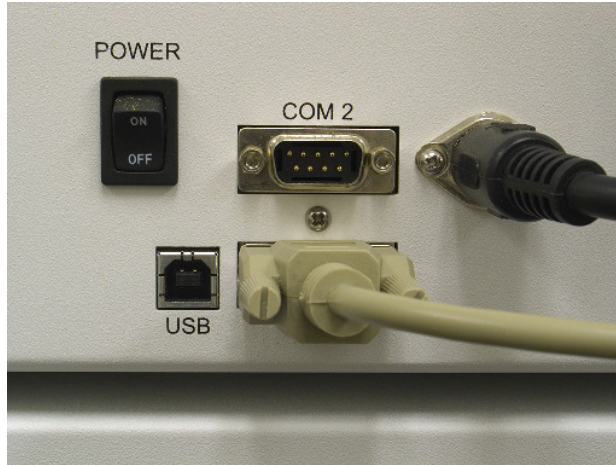

Figure 1-2. Power and communications connections on the ASX-1x00 series autosamplers.
To program the autosampler this configuration needs to be reversed: SW3 pressed in at the bottom and SW4 pressed in at the top. Power should be turned off while changing the switch state. Once the switches have been set appropriately, the power must be turned back on and the autosampler is then awaiting the firmware upgrade utility to send the updated information through serial port one on the back of the autosampler (as shown in figure 1-2 below.)
2. Connect the power cord and the serial cable (as shown in figure 1-2) and turn the autosampler on.